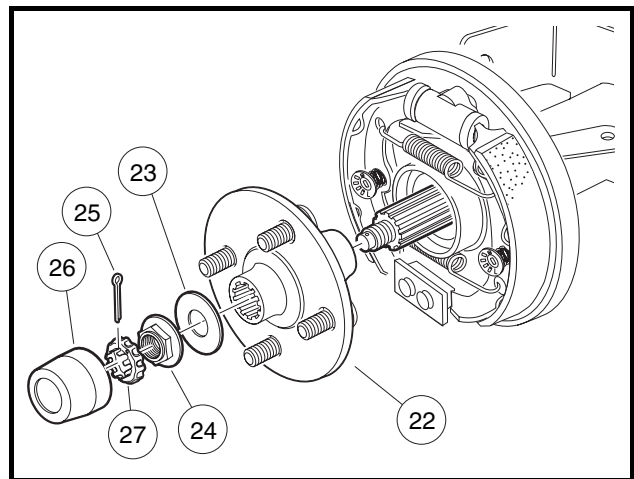
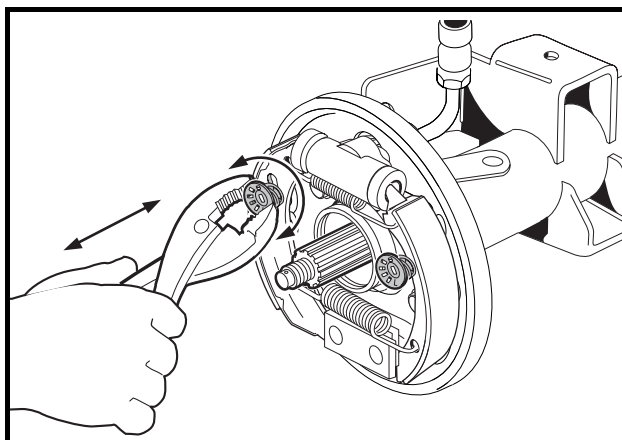

Figure 6-5 Rear Wheel Bolt Flange Assembly
Figure 6-6 Rotate Rear Spring Cups
NOTE: It is recommended that the wheel bolt flange (22) be removed prior to brake shoe removal (Figure 6-5, Page 6-9).
2. Remove rubber boot (26), cotter pin (25), locking cap (27) and large flat washer (23) (Figure 6-5, Page 6-9).
3. Remove the flanged nut (24) and large flat washer (23) from the axle end.
4. Slide the wheel bolt flange (22) off of the splined axle end.
5. Use pliers or a brake tool to rotate the cup washer and compression spring assembly 90° and remove the cup and spring from each brake shoe (Figure 6-6, Page 6-9).
2. Compress the spring with the cup washer (12) onto the pin of the adjuster assembly (3) (**Figure 6-1, Page 6-2**) and rotate 90° to secure the brake shoe (**Figure 6-6, Page 6-9**).
2. Compress the spring with the cup washer (12) onto the pin of the adjuster assembly (3) (**Figure 6-19, Page 6-21**) and rotate 90° to secure the brake shoe (**Figure 6-6, Page 6-9**).
5. Compress the remaining spring and cup washer (12) onto the pin of the adjuster (3) (**Figure 6-19, Page 6-21**) and rotate 90° to secure the brake shoe (**Figure 6-6, Page 6-9**).
- 8.1. Slide wheel bolt flange (22) onto splined axle (**Figure 6-5, Page 6-9**).